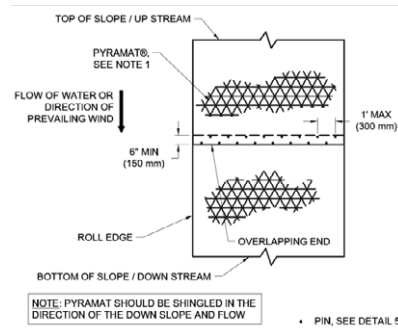

Figure 13: Roll end overlap
- Roll ends shall be overlapped a minimum of 6 in (150 mm) with upstream panel on top. Secure roll end overlaps with two rows of pins staggered 6 in (150 mm) apart on 12 in (300 mm) (Figure 13).